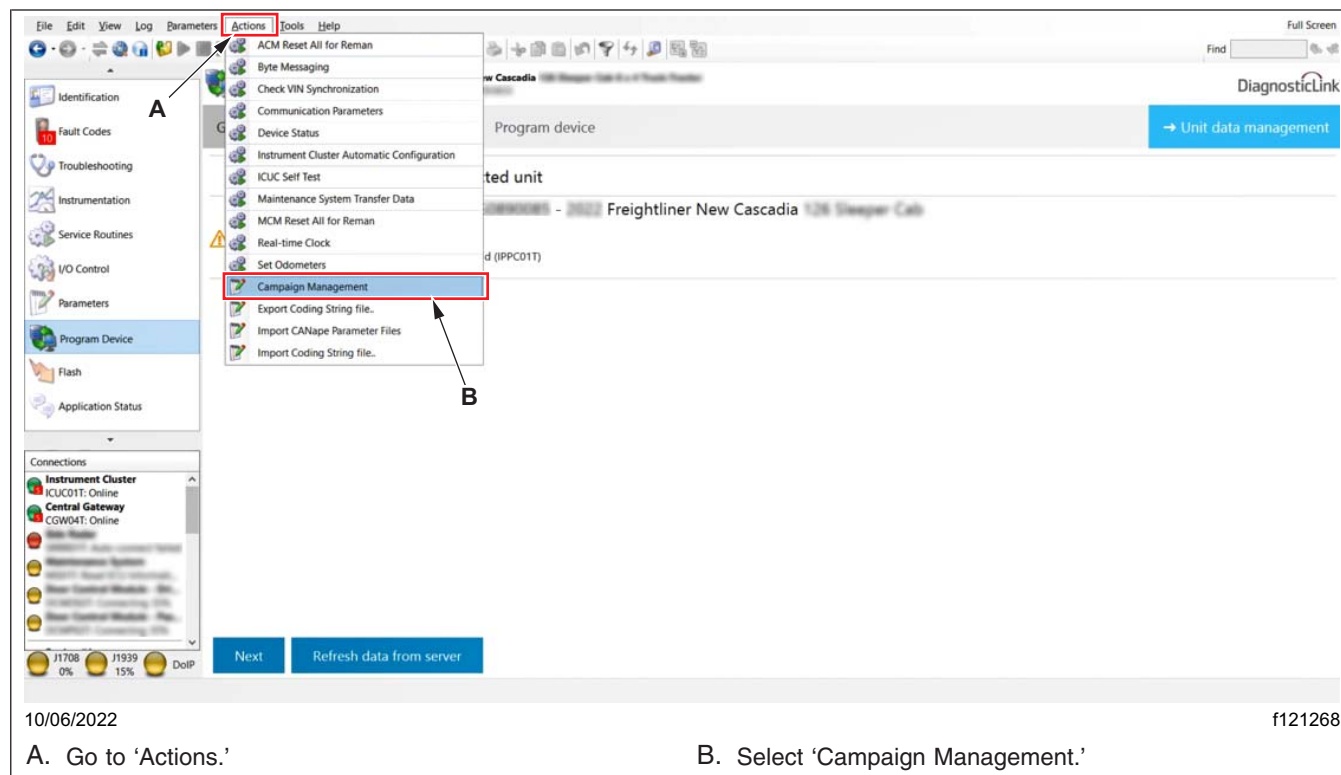

Fig. 8, Launching the Campaign Management Window
18.1 From the menu bar, select 'Actions,' then go to 'Campaign Management.' See Fig. 8.